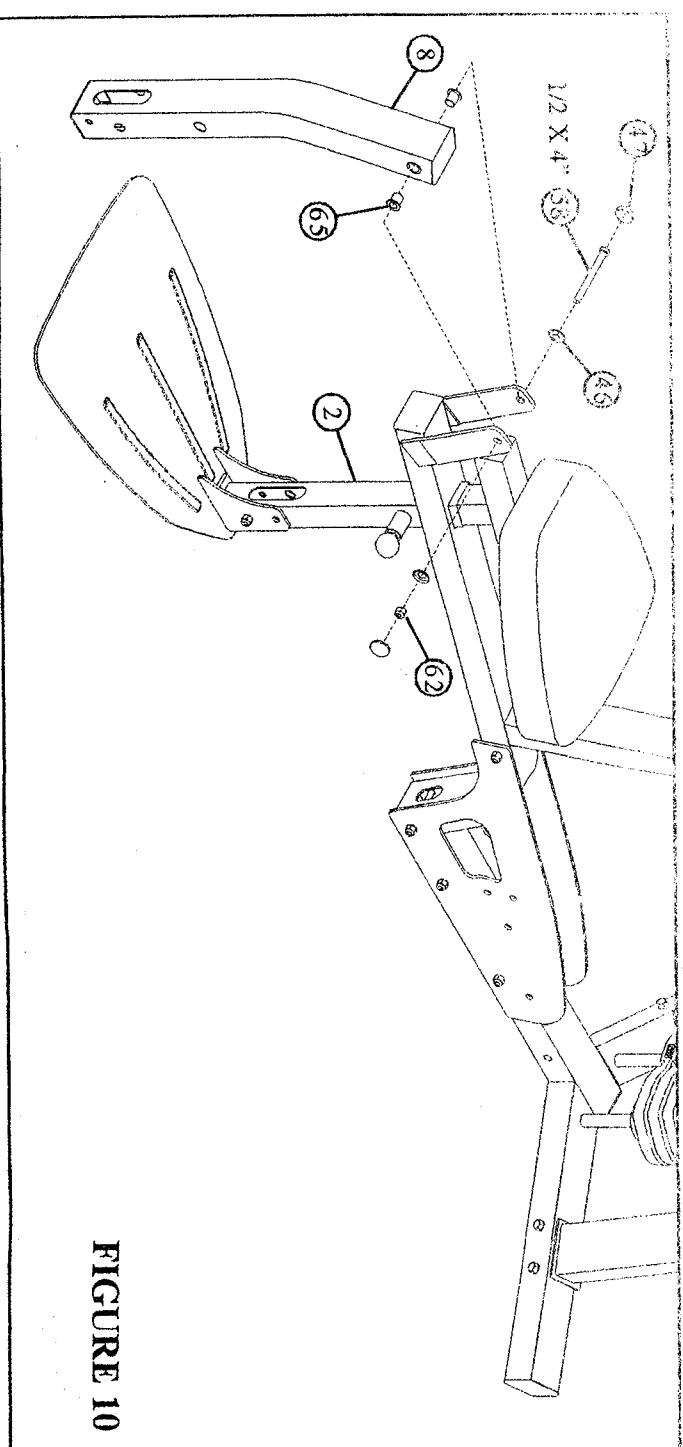

FIGURE 10
- Insert two 1/2" FLANGE BEARINGS (65) into the LEG PEDESTAL (8) as shown in FIGURE 10.
- Assemble the LEG PEDESTAL (8) to the UPRIGHT (2) using two RH CAPS (47), one 1/2 X 4" BOLT (58), two 1/2" RH WASHERS (46), and one 1/2" LOW HEIGHT LOCK NUT (62). (Note: Tighten this connection enough to remove excess play yet allow the LEG PEDESTAL to rotate freely.)